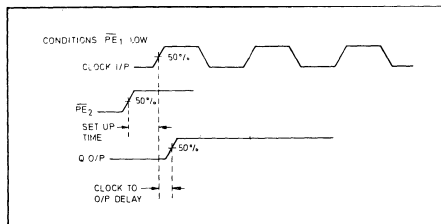

Fig. 3 Set-up timing diagram
- Set-up time is defined as the minimum time that can elapse between a L→H transition of a control input and the next L→H clock pulse transition to ensure that the $\neq 6$ mode is forced by that clock pulse (see Fig. 3).